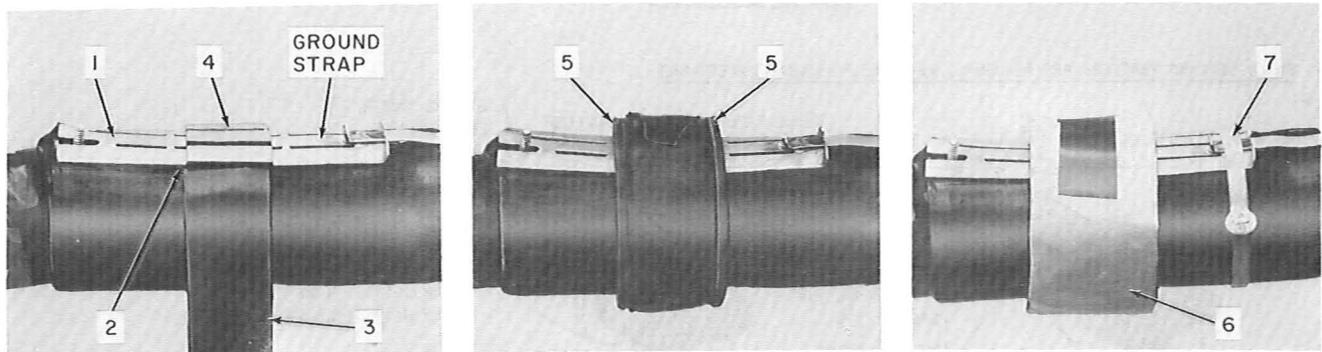

Fig. 8—Placing Ground Strap
1. Place ground strap on one cable sheath as outlined in Fig. 8.
2. Place sealing washers on adjacent cable and using 1-1/2 inch wide B sealing tape build up a collar as outlined in Fig. 8. Wrap collar with release paper and secure paper with vinyl tape. This protects collar during splicing operation.